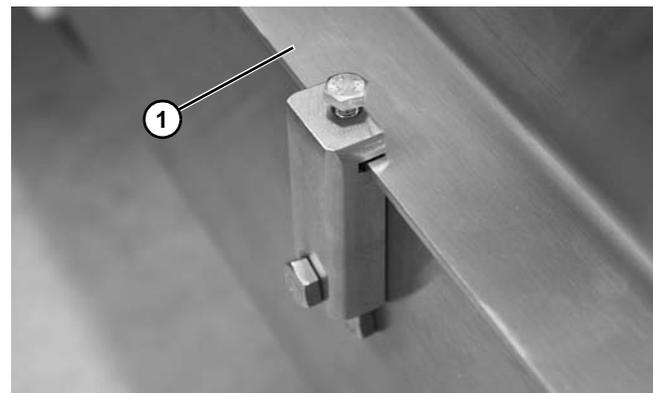

Figure 25
1. Remove guides (Figure 25, item 1) when required.